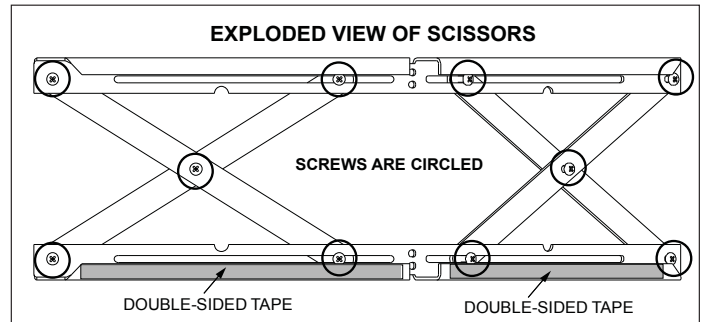

Figure 19.1
1. The 10 screws on each set of scissors will already be loose when shipped. **Figure 19.1.**